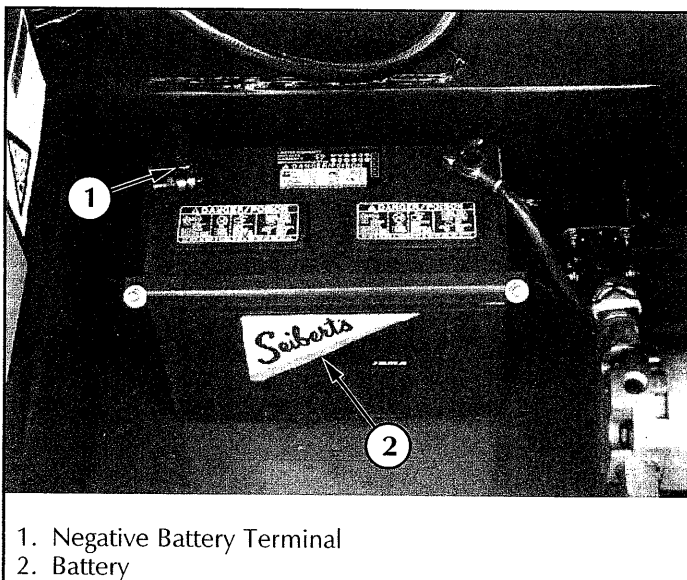

Figure 2-1: Batteries
4. Connect the negative (-) lead terminal(s) to battery(ies) in power module (Figure 2-1).
3. Disconnect the battery(ies) negative (-) lead from the battery terminal(s) (Figure 2-1).